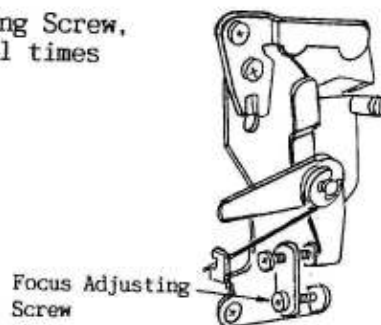

Fig.70
- When the focus is dislocated to such a degree that the indicator is positioned within $\pm 1/4$ of the " ∞ " mark width (with the standard lens Planar 1.4/50 is dislocated by 0.1 mm or less), correct it by turning the Focus Adjusting Screw. (See Fig.70)